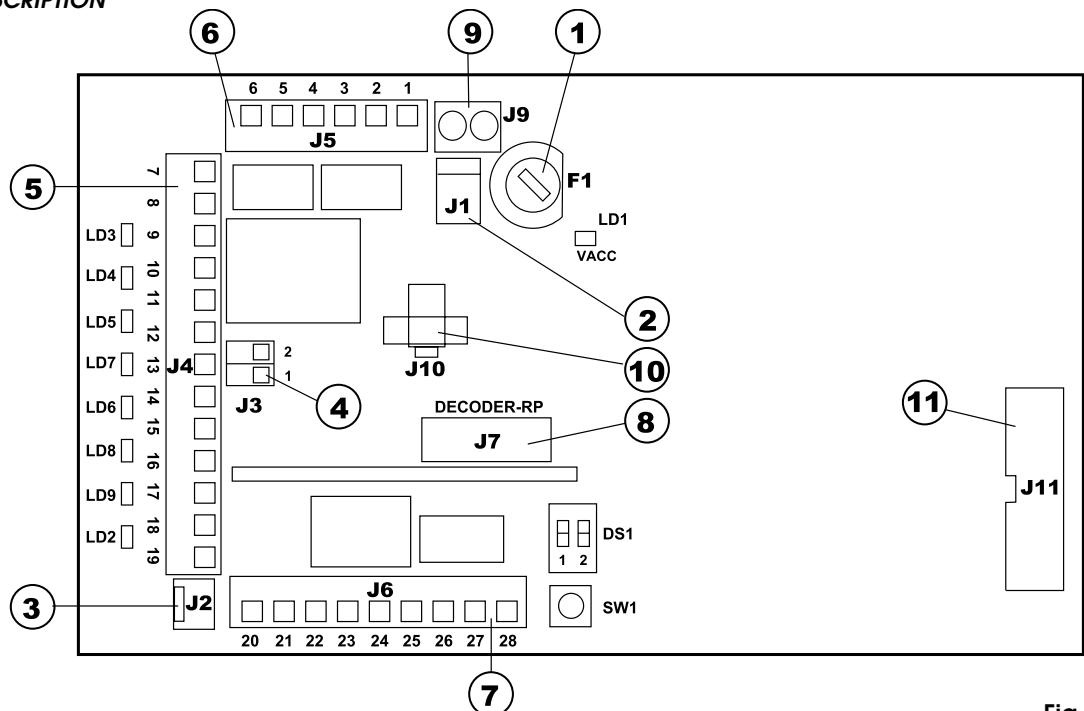

Fig. 10
① **FUSE F1** 4AT/230Vac - 5x20
② **J1 CONNECTOR** Transformer Secondary winding - fig. 10
③ **J2 CONNECTOR**